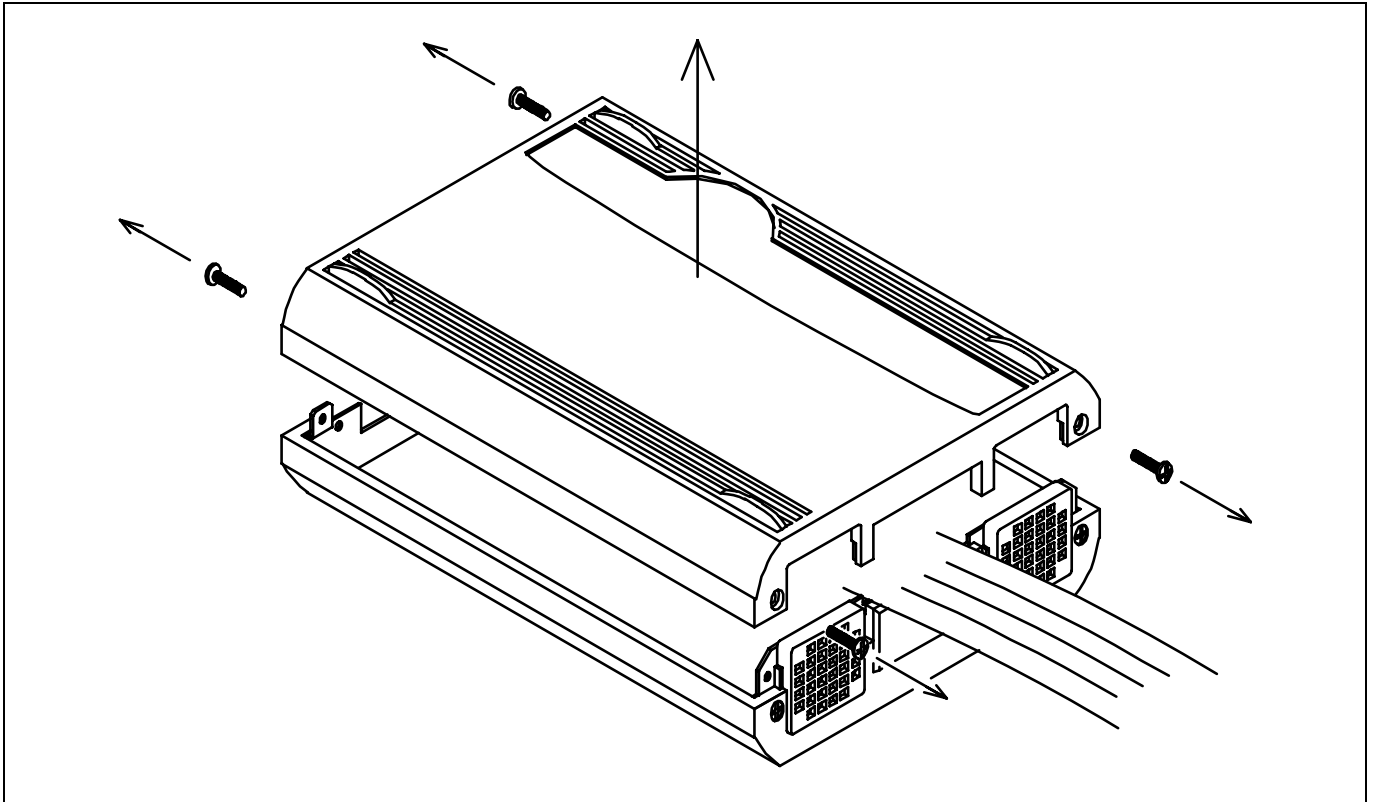

Figure 2.21 Removing the upper cover
1. Remove the four screws of both sides of this product and lift off the upper cover (see Figure 2.21).